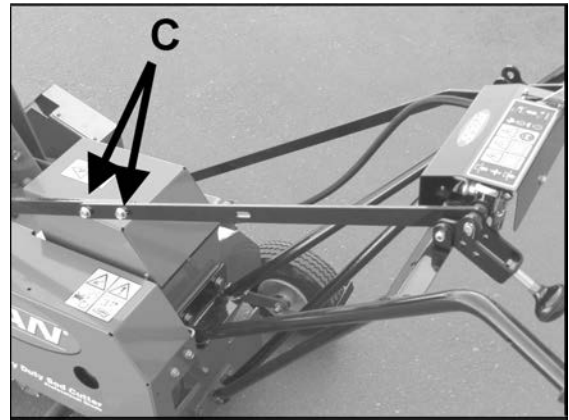
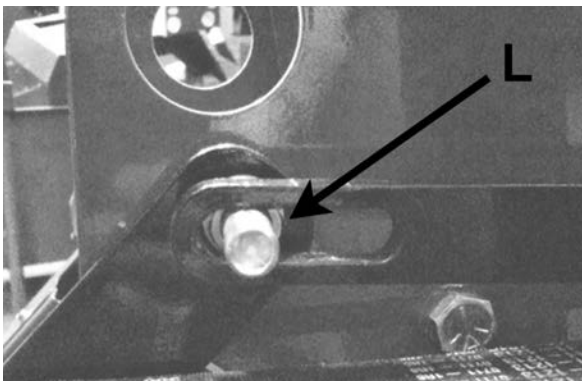

FIGURE 2
FIGURE 4
6. Rotate the master clutch control to the rear "Disengaged" position. Connect the clutch control links together so that the lower link slot bolt **L** is 1/4" from the left side of the slot. (Figure 4) Tighten links together and secure using two 5/16-18x1" serrated flange screws and two serrated flange nuts **C**. (Figure 2)